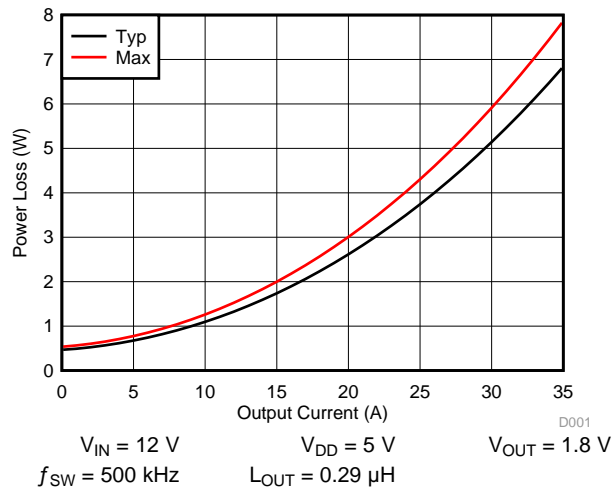

Figure 4. Power Loss vs Output Current
MOSFET-centric parameters such as  $R_{DS(ON)}$  and  $Q_{gd}$  are primarily needed by engineers to estimate the loss generated by the devices. In an effort to simplify the design process for engineers, Texas Instruments has provided measured power loss performance curves. Figure 4 plots the power loss of the CSD95377Q4M as a function of load current. This curve is measured by configuring and running the CSD95377Q4M as it would be in the final application (see Figure 14). The measured power loss is the CSD95377Q4M device power loss which consists of both input conversion loss and gate drive loss. Equation 1 is used to generate the power loss curve.
The power loss curve in Figure 4 is measured at the maximum recommended junction temperature of  $T_J = 125^\circ\text{C}$  under isothermal test conditions.
- Typical power loss at 25 A = 3.74 W (Figure 4)